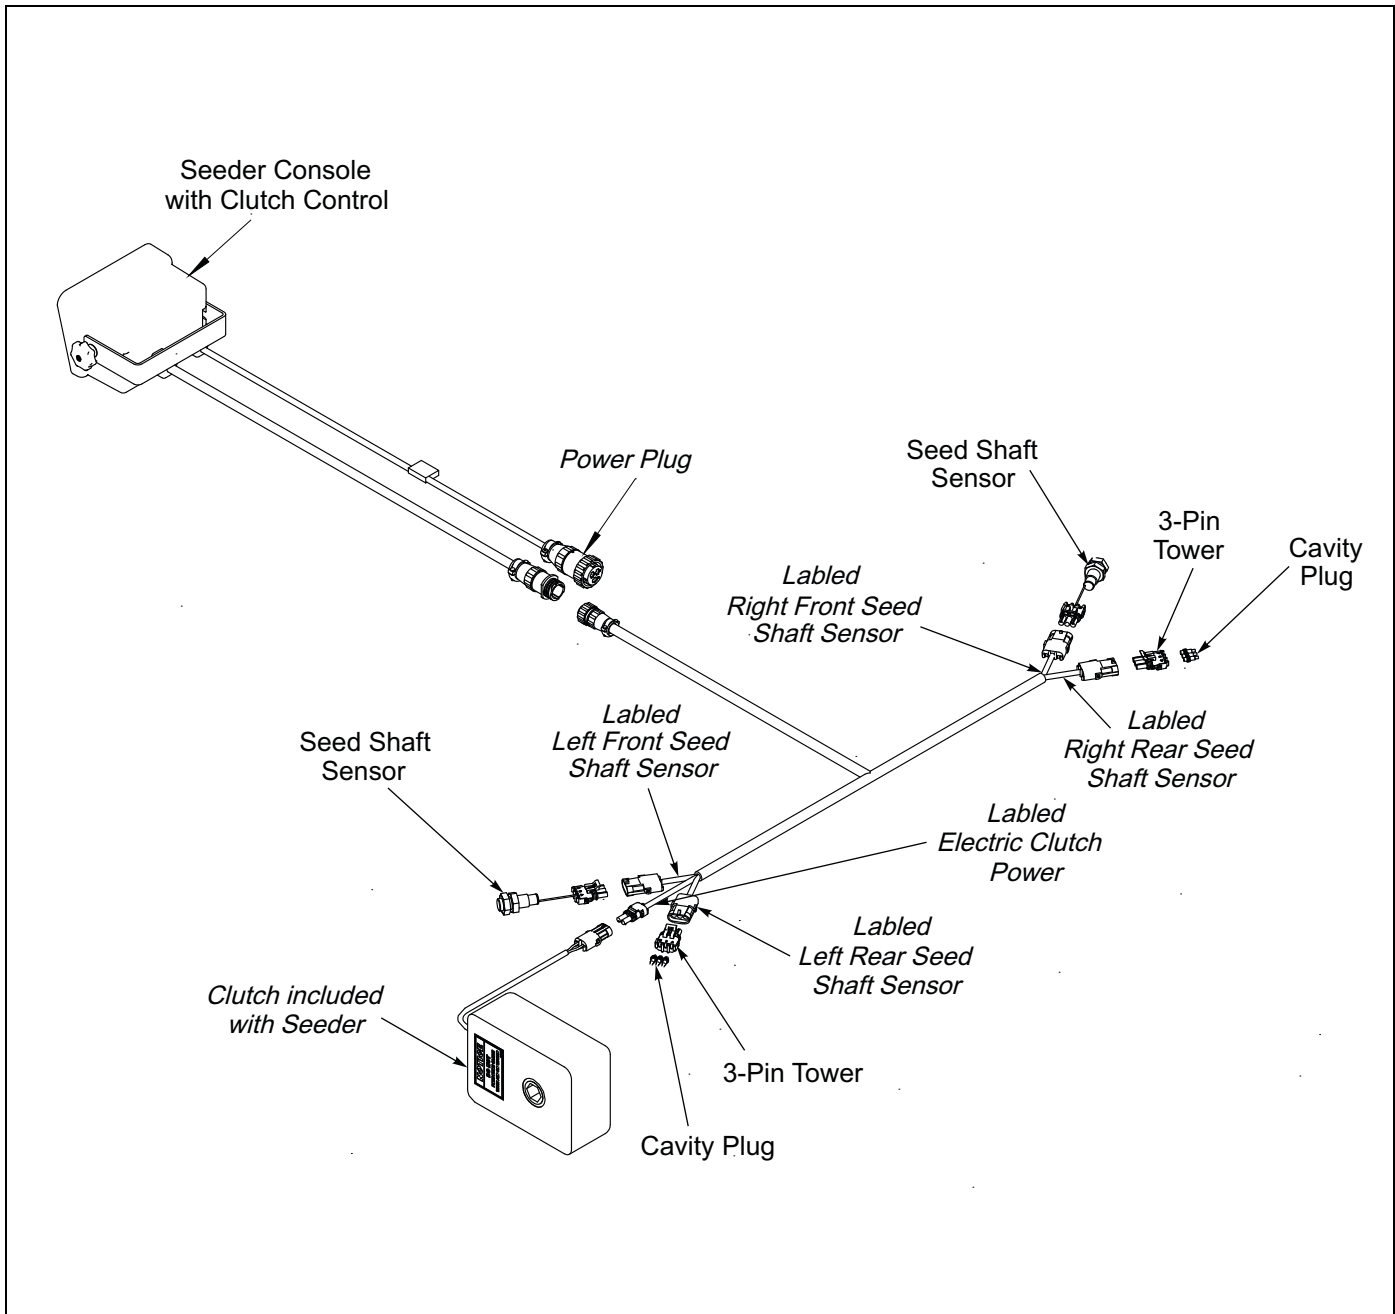

Figure 2-22: Seed Shaft Sensor Layout
5. On left side connect plug labeled "Electric Clutch Power" to the Electric Clutch lead. If you do not have an Electric Clutch seal the plug end using a 2-Pin Shroud and Cavity Plug to protect it from the environment. **See Figure 2-22.**